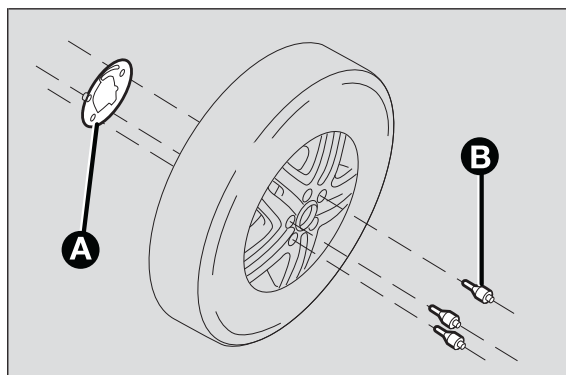

fig. 178
- ☐ fit the appropriate plate A fig. 178 on the alloy wheel and fix it with the screws supplied B, using the wrench provided;